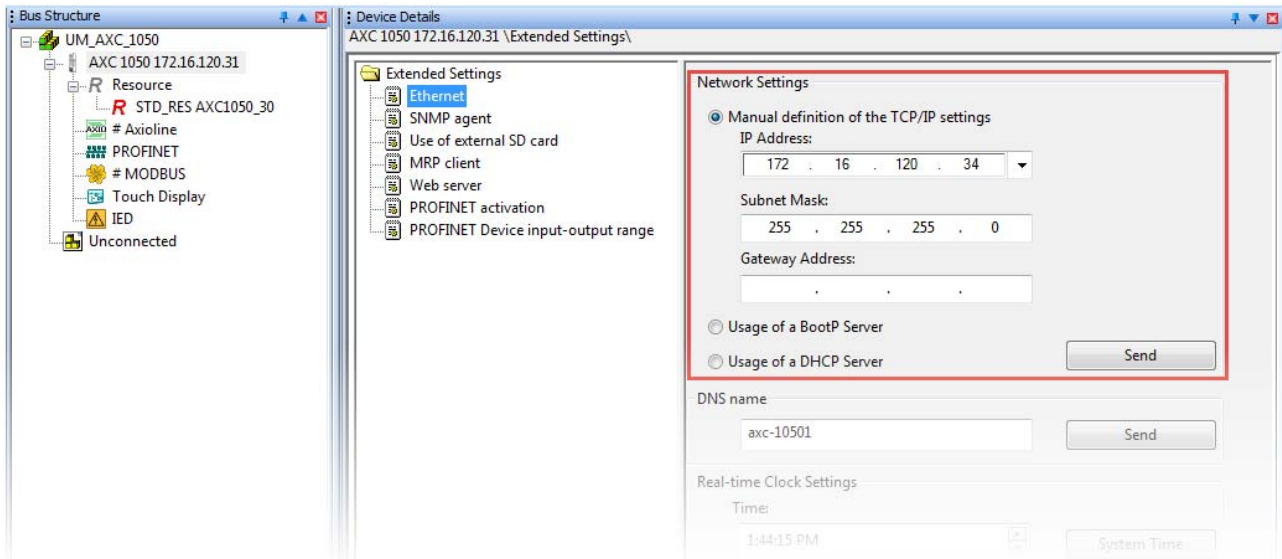

Figure 6-11 Network settings: "Manual definition of the TCP/IP settings"
- Enter the required IP address (in the example in Figure 6-11: IP address: 172.16.120.31; subnet mask: 255.255.255.0).